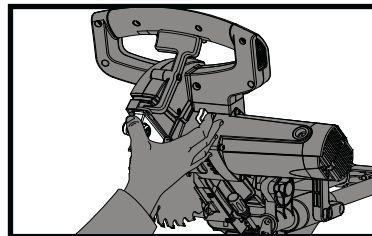
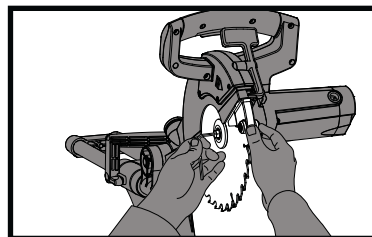

Fig 13
Fig 14
- For clarity the operators hands are shown in figs 13 and 14. We recommend that the operator considers wearing protective gloves when handling or installing the blade.
- 6) Hold the guard in position with your thumb and press the arbor lock gently with a finger. (See fig. 13) Rotate the blade using the correct sized hex key inserted into the arbor bolt (See fig. 14) until positive location is felt.
- 5) Press the arbor lock, holding gently while turning the blade counterclockwise. When arbor lock engages, continue to press it in firmly while tightening the arbor bolt securely. (See fig. 14)